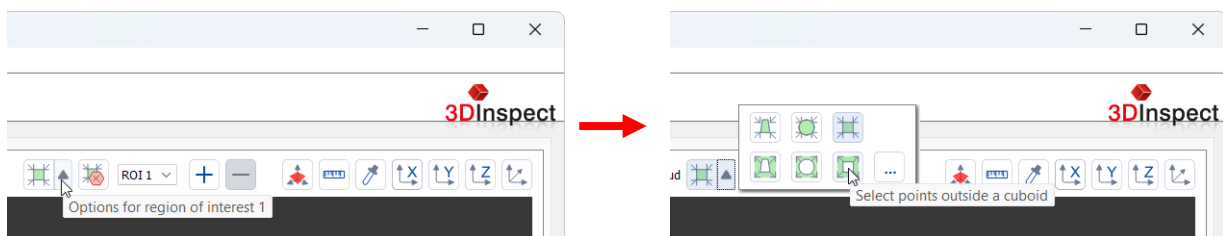

Fig. 3.63: "Region of interest options" context menu (selection ROI, type, mode)
- ➡ Select the area you want to change from the list (see Fig. 3.63).
- ➡ Open the "Region of interest options" context menu. Click on the corresponding icon to the right of the "Set region of interest" button (see Fig. 3.63).
- ➡ Select the desired type and mode from the context menu (see Fig. 3.63).
- ➡ Open the context menu for the desired ROI (see above, Fig. 3.63).